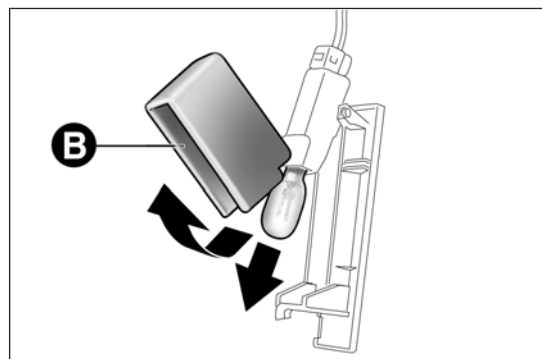

fig. 155
- open the protection B fig. 155 and replace the bulb;